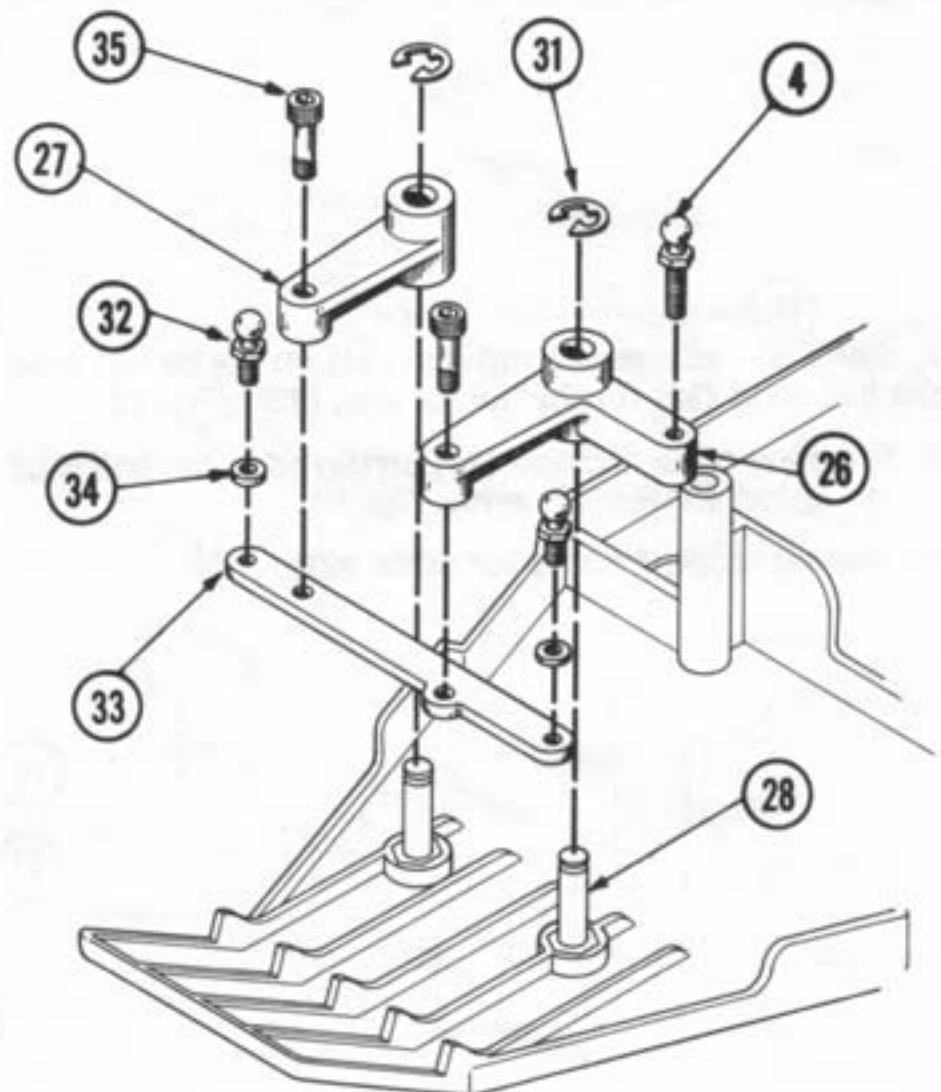

Figure 11
2. Thread a 3/8" ball stud (4) into steering bellcrank (26) as shown in Fig. 11.
3. Thread one 1/8" ball stud (32) into each side of steering sector arm (33) using a gold washer (34). (Two total)
4. Secure steering sector arm (33) to idler arm (27) and steering bellcrank (26) as shown using 4-40 x 1/8" cap head shoulder screws (35). Fig. 11
5. Thread 2 1/8" ball studs (32) into both sides of steering sector arm (33) using gold washers (32). Fig. 11